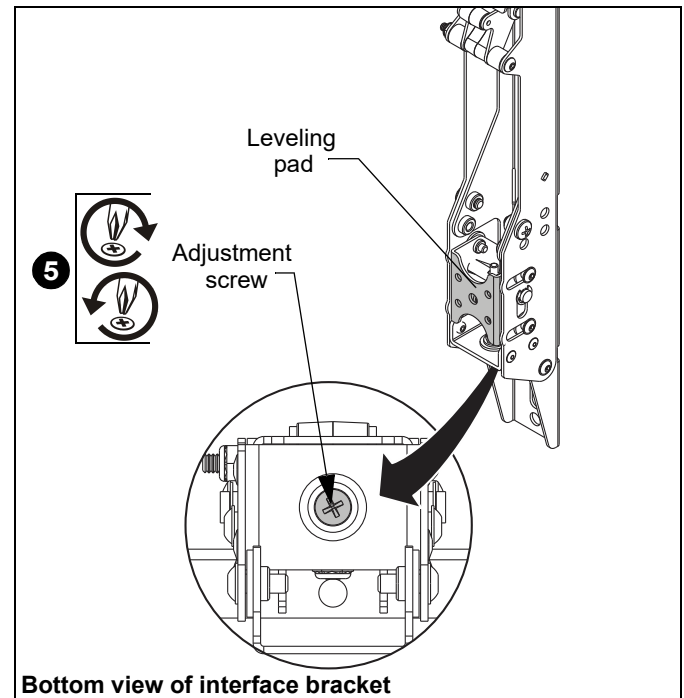

Figure 4
5. Adjust each interface bracket (using the Phillips adjustment screw at bottom of interface bracket) until the leveling pad is flat against the wall. (See Figure 4)
4. Check the plumb across the displays, and adjust the leveling pads as necessary, using the adjustment screw at the bottom of the interface brackets. (See Figure 4)